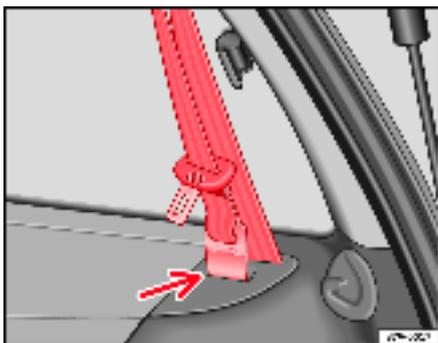

Fig. 19 Storage for the detached seat belt
- Guide the seat belt with the spring hook up and hang the spring hook in the retainer ⇒ fig. 19 -arrow- in the side trim.